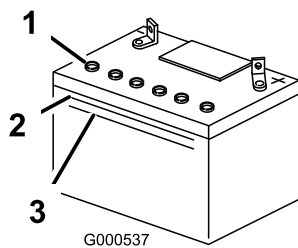

Figure 45
3. Look at the side of the battery. The electrolyte must be up to the **upper** line (Figure 45). Do not allow the electrolyte to fall below the Lower line (Figure 45).
5. Remove the vent caps from the battery (Figure 45).
6. Slowly pour distilled water into each battery cell until the electrolyte level is up to the Upper line (Figure 45) on the battery case.
7. Wait 5 to 10 minutes after filling the battery cells. Add distilled water, if necessary, until the electrolyte level is up to the Upper line (Figure 45) on the battery case.